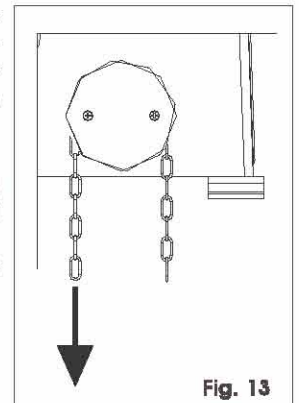

Fig. 13
- 1) Operate the release device, pulling the left-hand section of the chain (Fig. 13) until it stops.